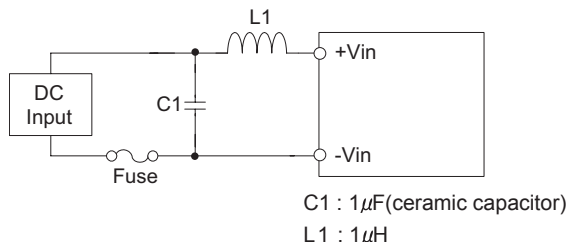

Fig.3.2 Recommended external input filter
(3) Conducted noise
■Install an external input filter as shown in Fig.3.2 in order to reduce conducted noise.